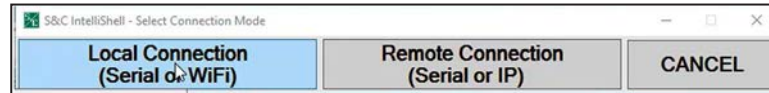

Figure 47. The IntelliShell Local Connection button.
STEP 1. Click on the **IntelliShell** button and click on the **Local Connection (Serial/Wi-Fi)** button. See Figure 47.